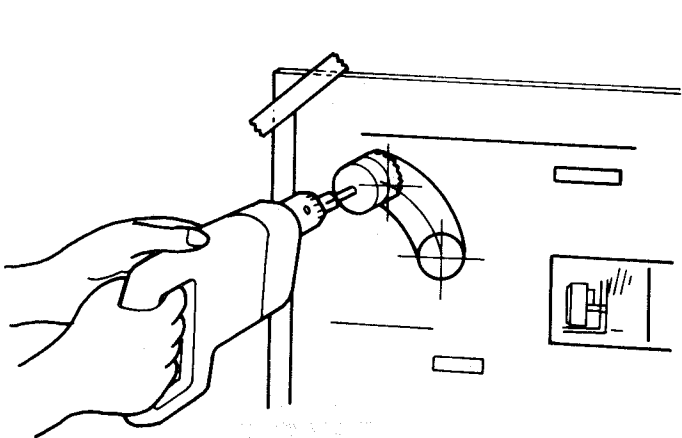
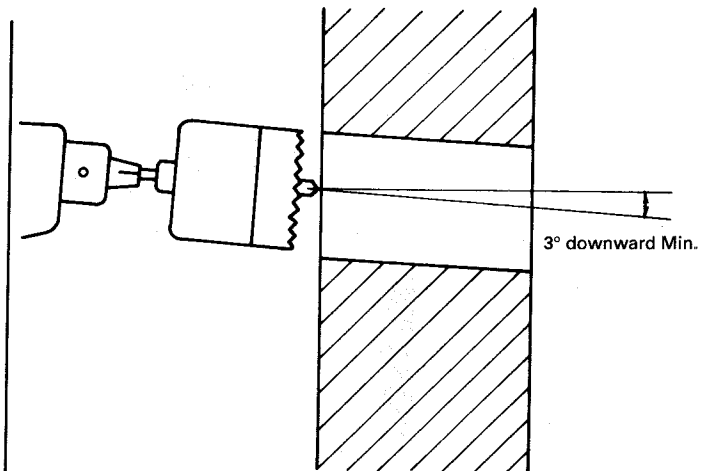

Fig. 5
Fig. 6
4. Cut the hole for the flue pipe from inside the room. Use a 2-3/4 to 3" diameter hole saw attached to an electric drill (See Fig. 5). The opening on the inside wall should be slightly higher than the outside opening (approximately 1/4") so that the flue pipe will slope slightly downward (approximately 3 degrees) after it is installed (See Fig. 6). This will enable the draining of condensed moisture from the flue pipe to the outside and prevent rain or snow entering from outside after installation.